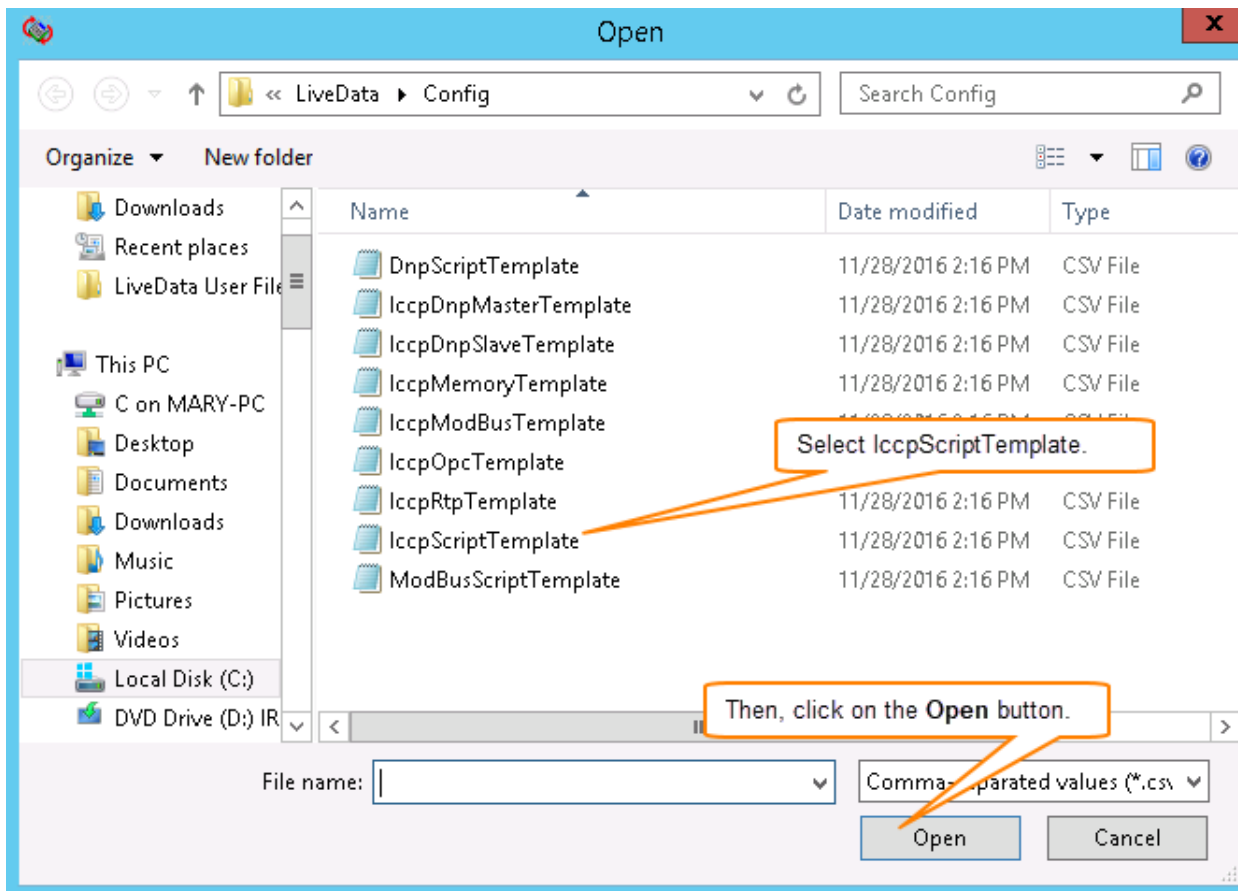

Figure 65: Load IccpScriptTemplate.csv into the ICCP Configuration
3. Select IccpScriptTemplate as shown in Figure 65.